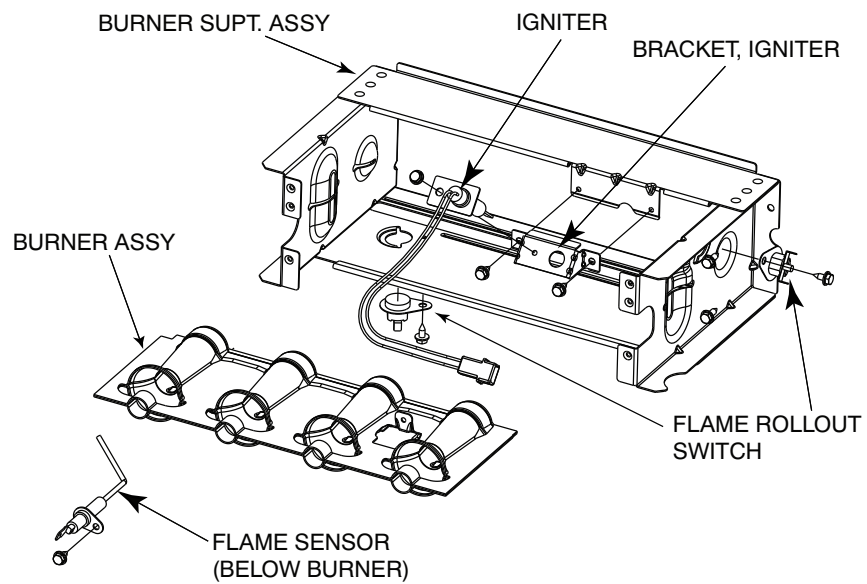

Fig. 64 - Burner Assembly
6. Remove screws attaching burner assembly to cell panel. See Fig. 64.